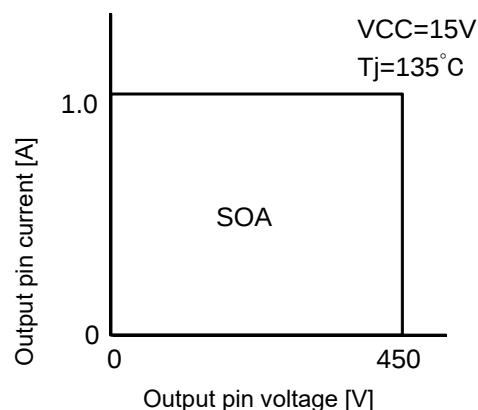

FIGURE 4.1.1 SOA
The current and voltage at output pins must not be outside the SOA shown in FIGURE 4.1.1.
Delay time to turn output IGBT off (T_{ref1}) and variability of V_{ref1} , R_s need to be considered, and the current must be below the curve of FIGURE 4.1.1.